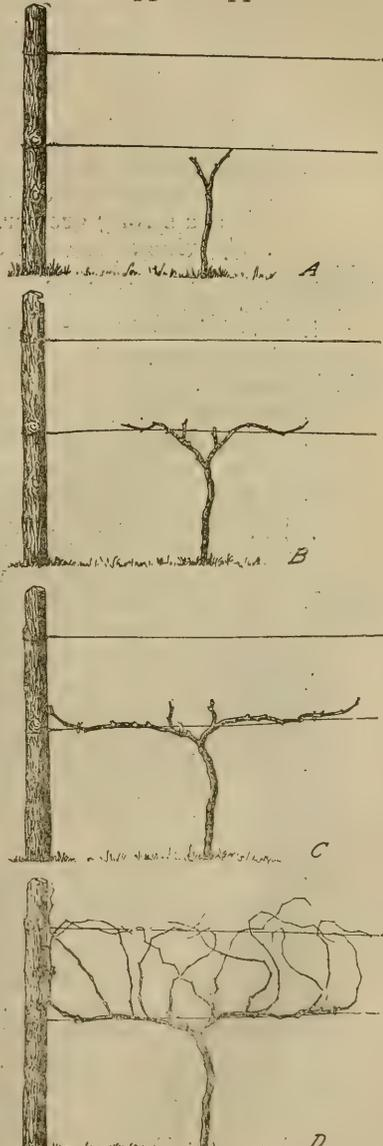

Fig. 122. A pruned and an unpruned vine at different ages.
1. The high-renewal system. Fig. 122.
d. Pruning. Fig. 122.
- a. See Figure 122.